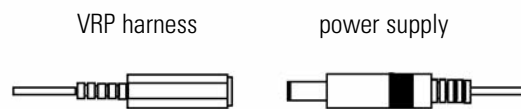

Figure 9. Connection to power supply
13. Connect the harness to the power supply as shown in Figure 9.